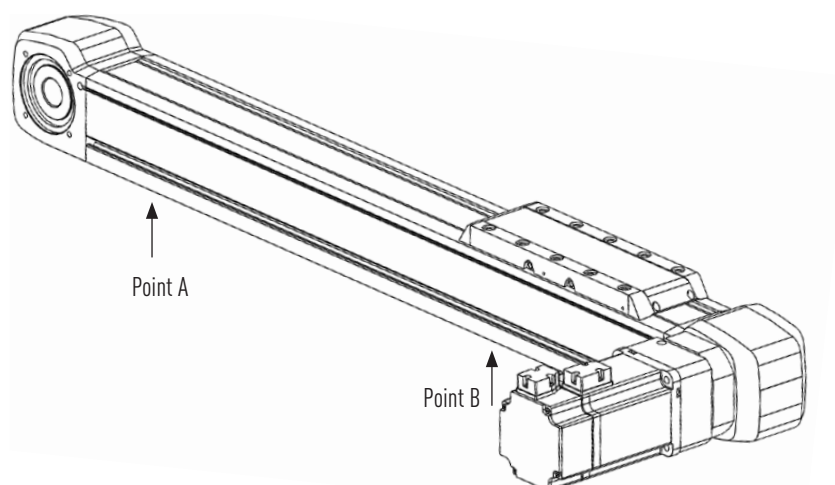
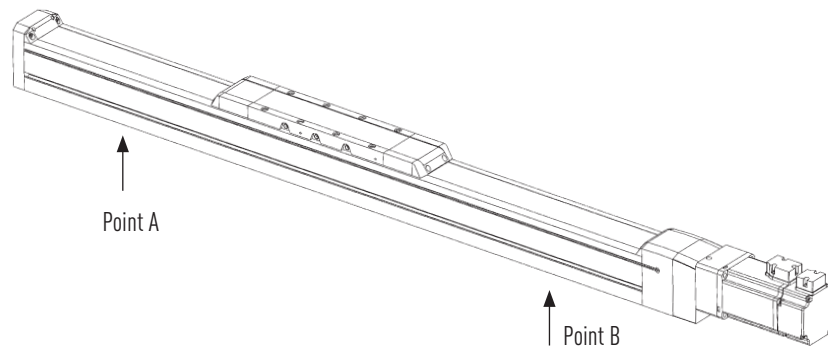

Fig. 6.1 Points A and B for hoisting and transporting, here on an HM-B linear axis
Fig. 6.2 Points A and B for hoisting and transporting, here on an HM-S linear axis
- ▶ To transport the linear axis, hoist this at the points designated A and B (see Fig. 6.1 and Fig. 6.2). The points A and B should be a quarter of the axis's overall length from each of its ends.